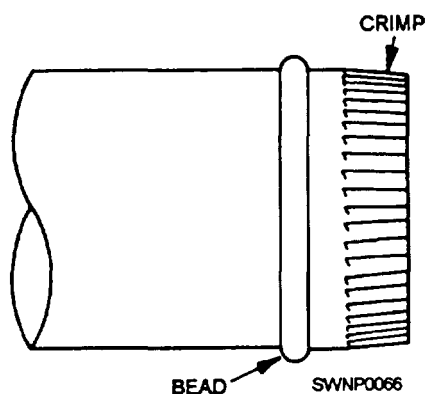

Figure 2-49.—A crimped section.
**Crimping.** — CRIMPING (fig. 2-49) reduces the diameter of a cylindrical shape, allowing it to be slipped into the next section. This eliminates the need for making each cylinder with a slight taper.